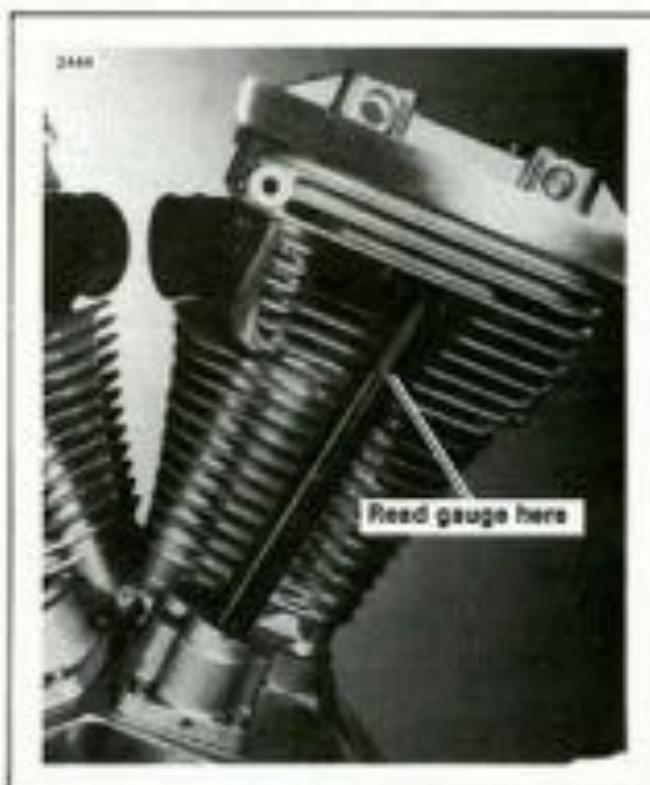

Figure 3-15. Push Rod Gauge
2. See Figure 3-15. Insert the round end of the correct color coded male adaptor (part of PUSH ROD HEIGHT GAUGE TOOL, Part No. HD-34199) through the push rod opening in the cylinder head, from the bottom side.